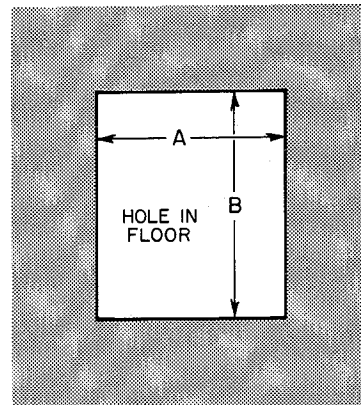

Figure 4—Floor Opening for Concrete Slab
- Construct hole in floor per dimensions in Figure 4 and Table III.